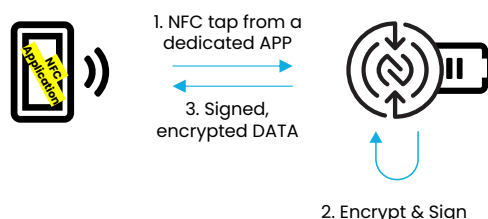

Figure 3. Example for NFC interface only: NFC-mobile-application-based NDPP example
- The diagram below shows a typical NFC-mobile-application-based system. In this case NFC mobile can trigger standard or custom commands to fetch (sensitive) data from NTAG X DNA Figure 3